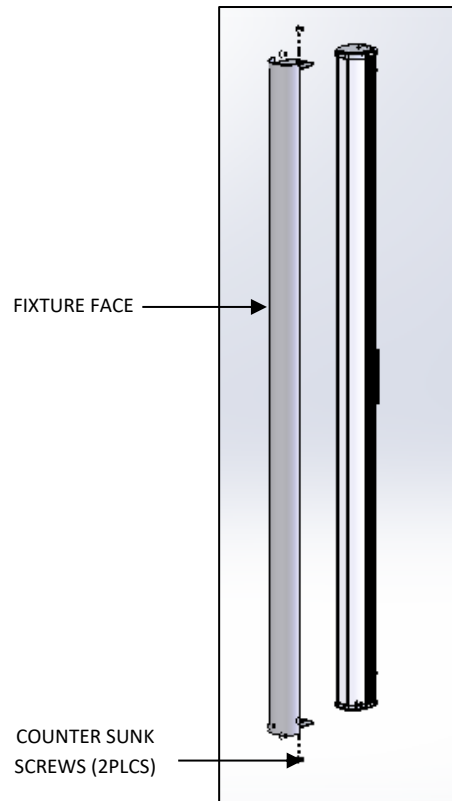

FIG. 16 – FINAL ASSEMBLY
11. Reattach the FIXTURE FACE to the FIXTURE with the HARDWARE provided as shown in FIG.16.